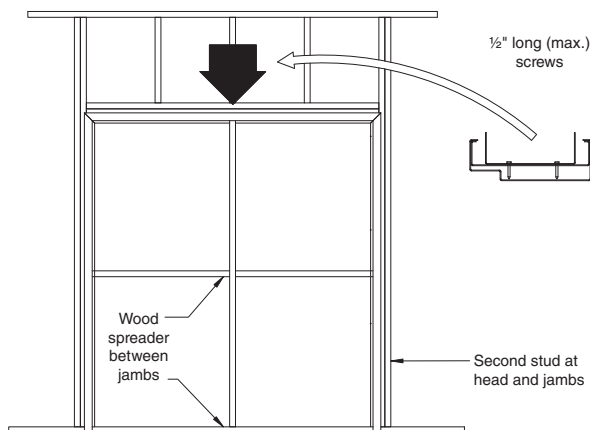

Figure 16 – Anchor header
8.5 Anchor header (see Figure 16)